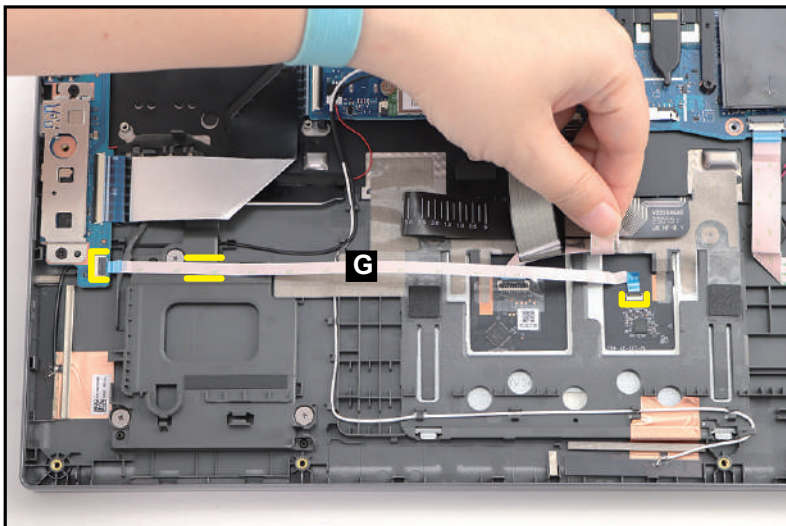

Figure 3-127. Replacing the Touchpad Module
7. Lift the keyboard FPC and touchpad FFC. Then connect the fingerprint FFC (G) to the USB board and touchpad module connectors (Figure 3-127).
8. Press the portion of the touchpad FFC to ensure its underneath adhesive (highlighted with the yellow lines) is properly attached as shown in Figure 3-127.